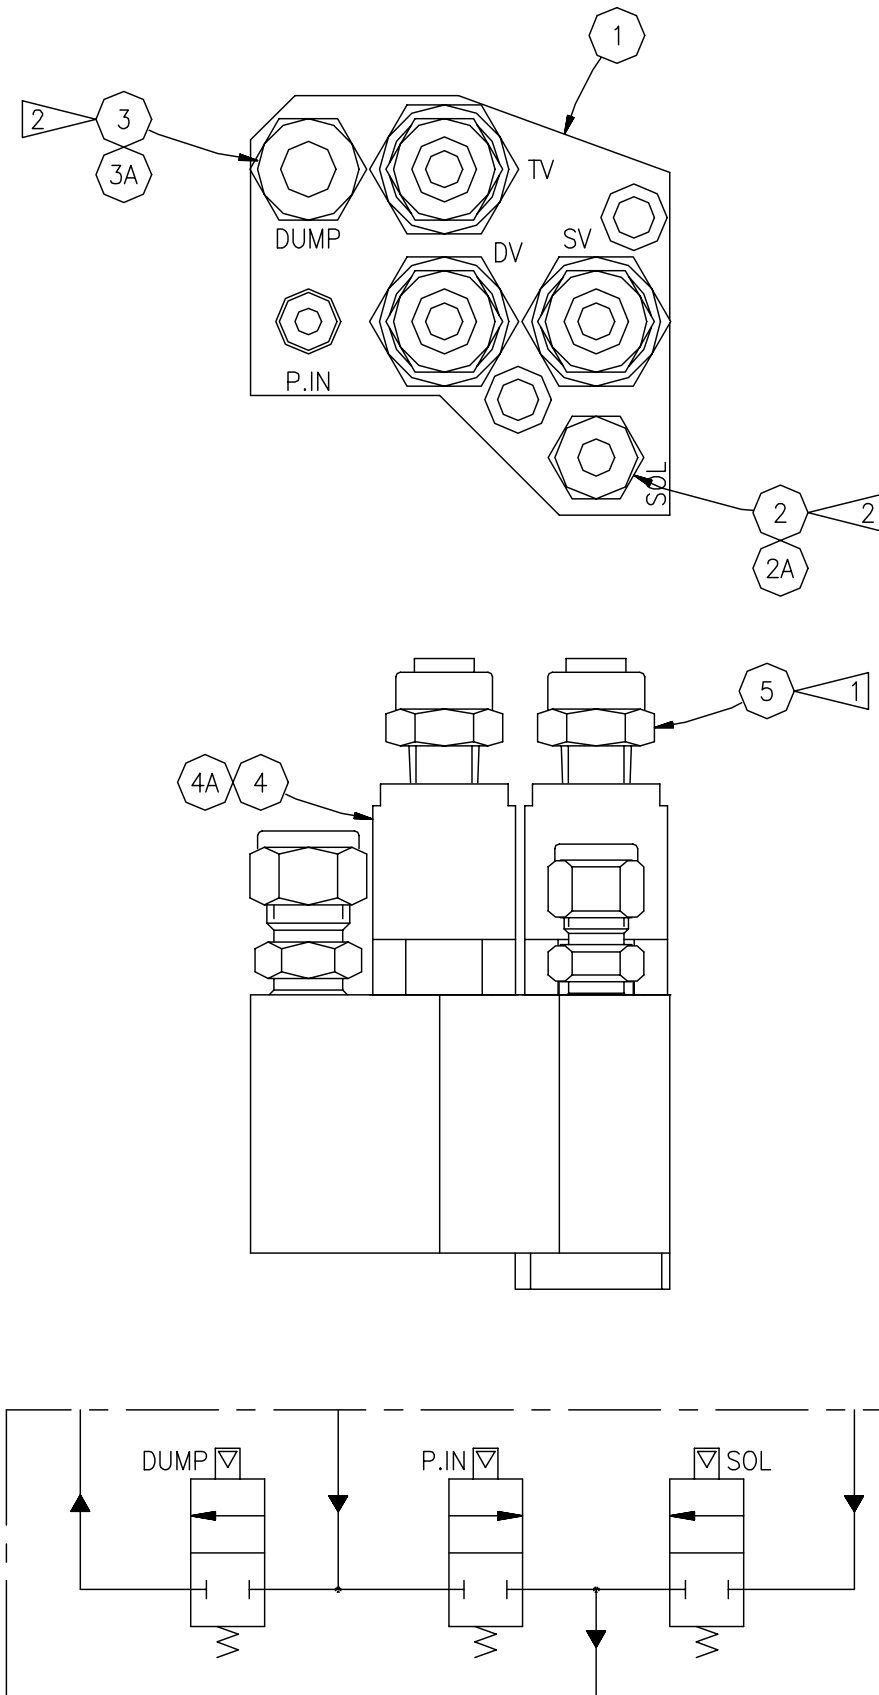

Figure 18: Fluid Manifold Assembly
FLUID MANIFOLD ASSEMBLY - PARTS LIST (Figure 18)
*** PARTS LIST BULLET DEFINITION TABLE (Figure 18)**